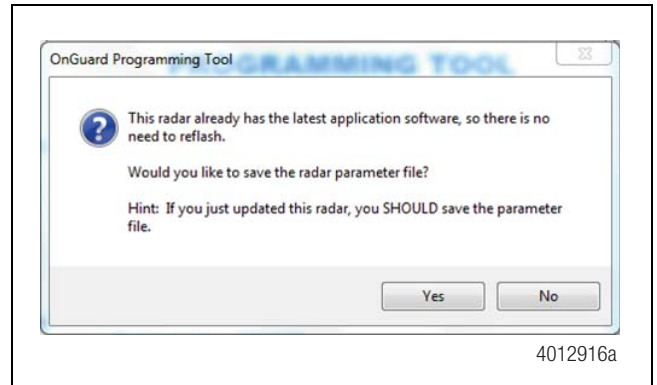

Figure 6
- If the software connects to the radar, but this radar already has the latest application software, the following screen will be displayed. Figure 6. No further action is needed; select "No" to exit the program. If you wish to save the parameter file, selecting "Yes" will take you through the parameter saving process, then exit.